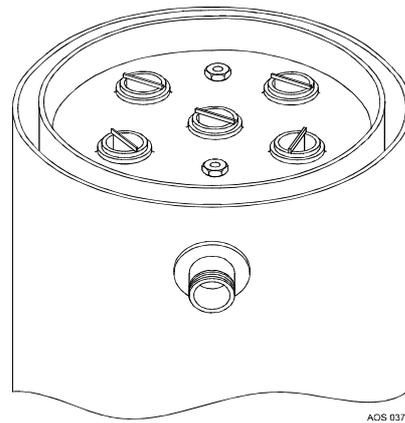

Figure 7: Anodes
3. Remove the lid. The hexagonal heads of the anodes are now visible, (see figure 7);